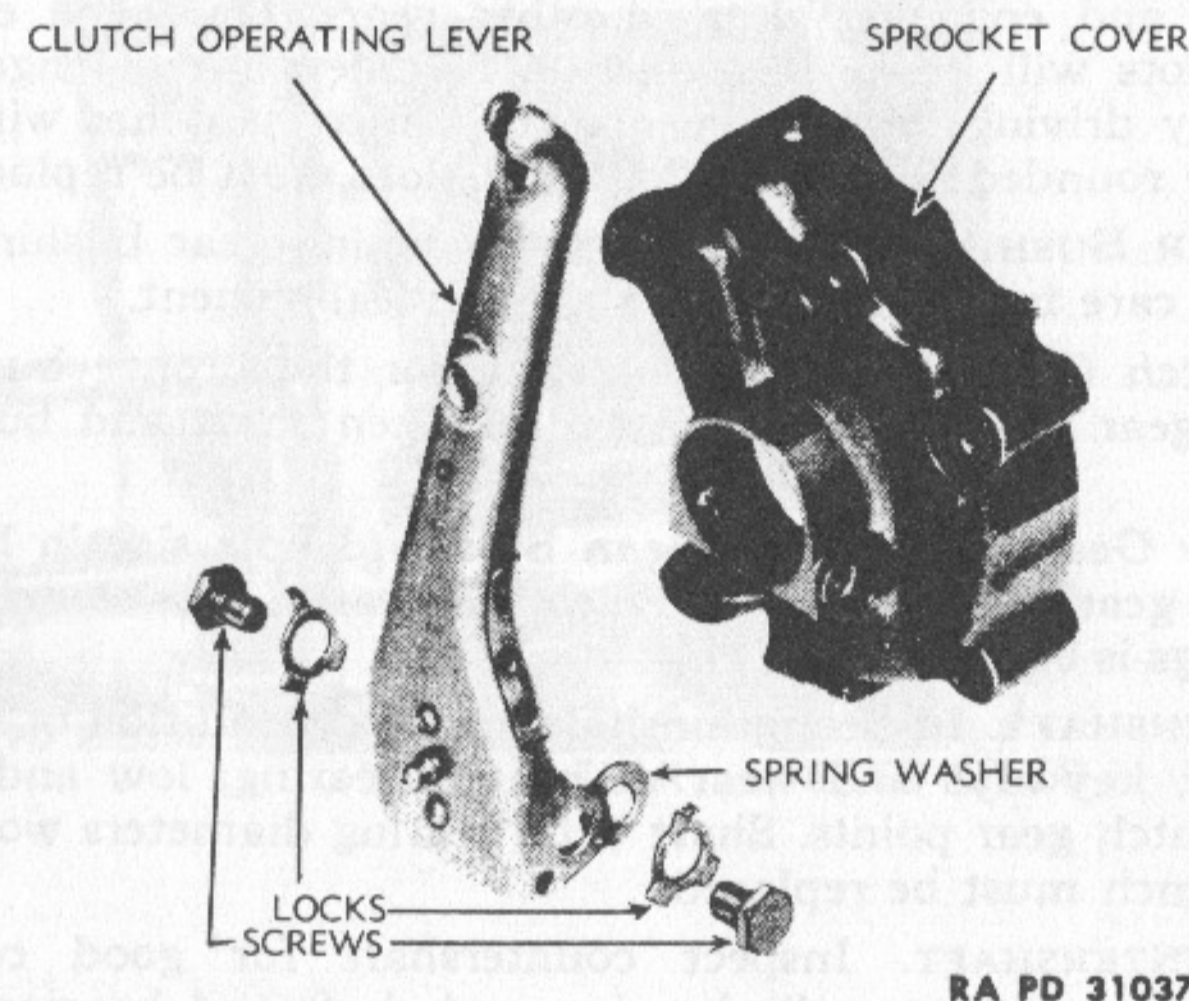

Figure 100—Sprocket Cover and Clutch Lever, Disassembled
(5) **SPROCKET COVER AND CLUTCH LEVER ASSEMBLY.** If either sprocket cover or clutch lever are broken or damaged, replace parts. Figure 100 shows correct order of clutch lever assembly.